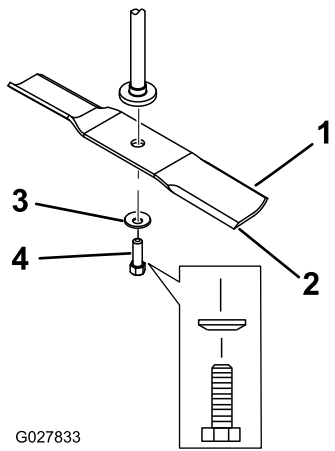

Figure 52
2. Remove the blade bolt, curved washer, and blade from the spindle shaft (Figure 52).
- Install the blade onto the spindle shaft (Figure 52).
- Install the curved washer (cupped side toward the blade) and the blade bolt (Figure 52).